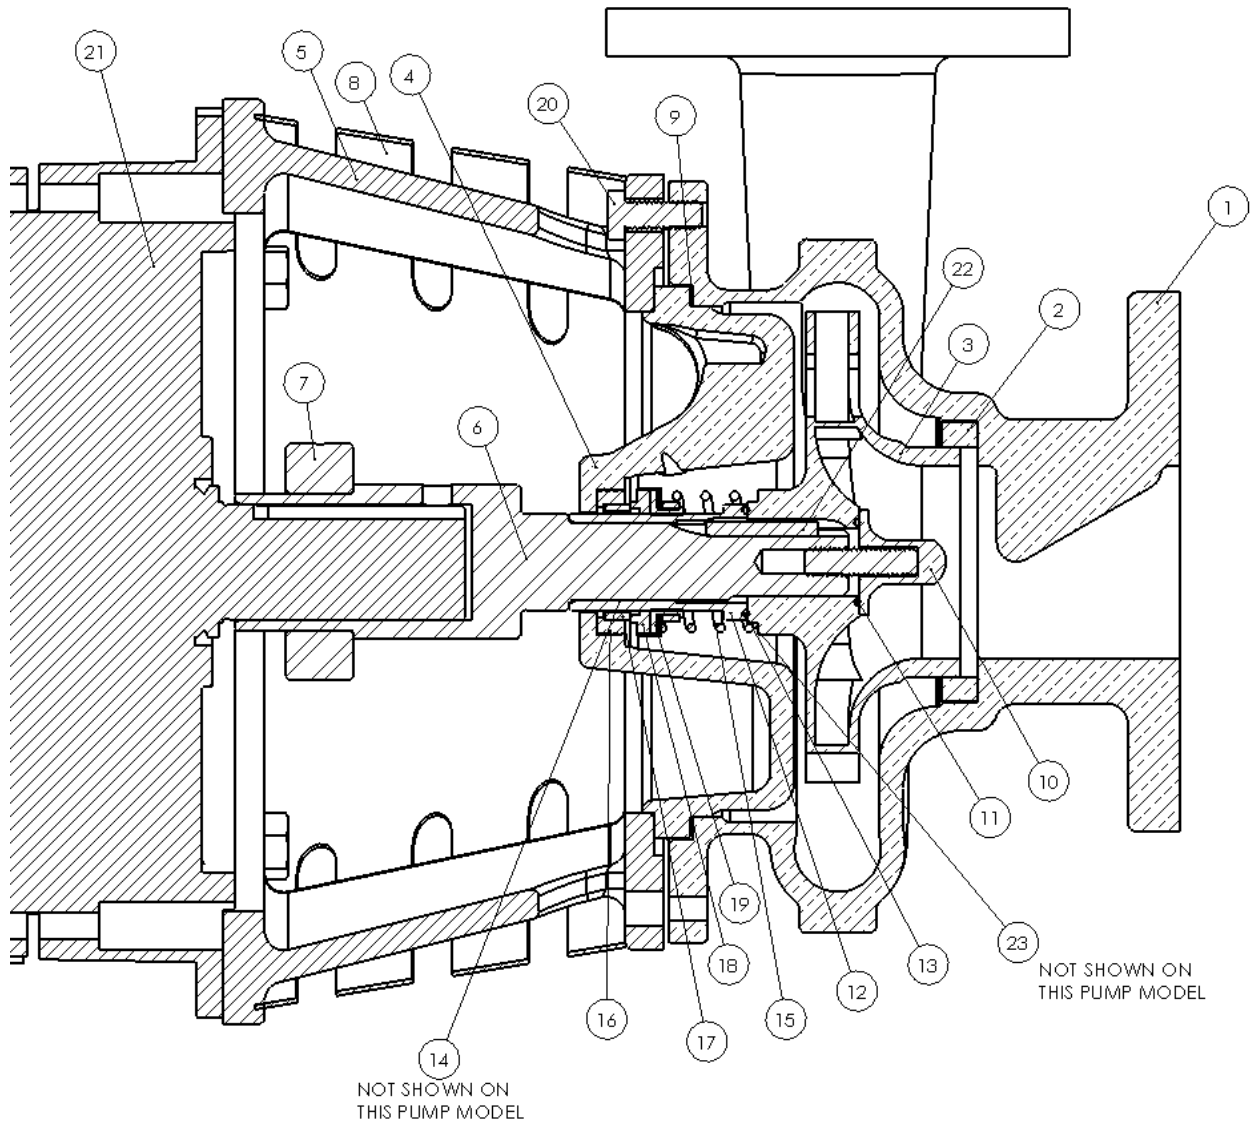

Figure 9: Type 21 seal cross section parts diagram
*Refer to the parts list appended to this manual for the part name and quantity corresponding to each number in Figure 9.
(Refer to Figure 9)